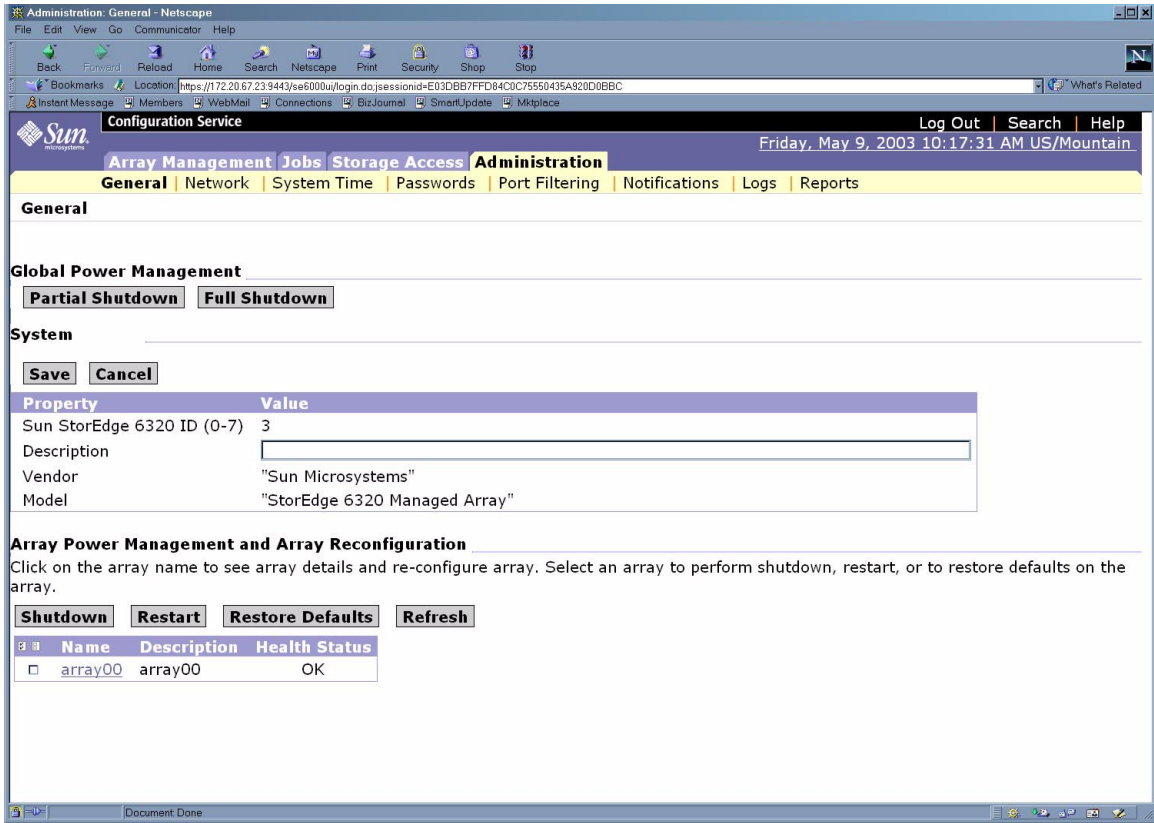

FIGURE B-9 Administration General Partial Shutdown Page
6. The Administration General page is displayed. Click on Partial Shutdown as shown in FIGURE B-9.